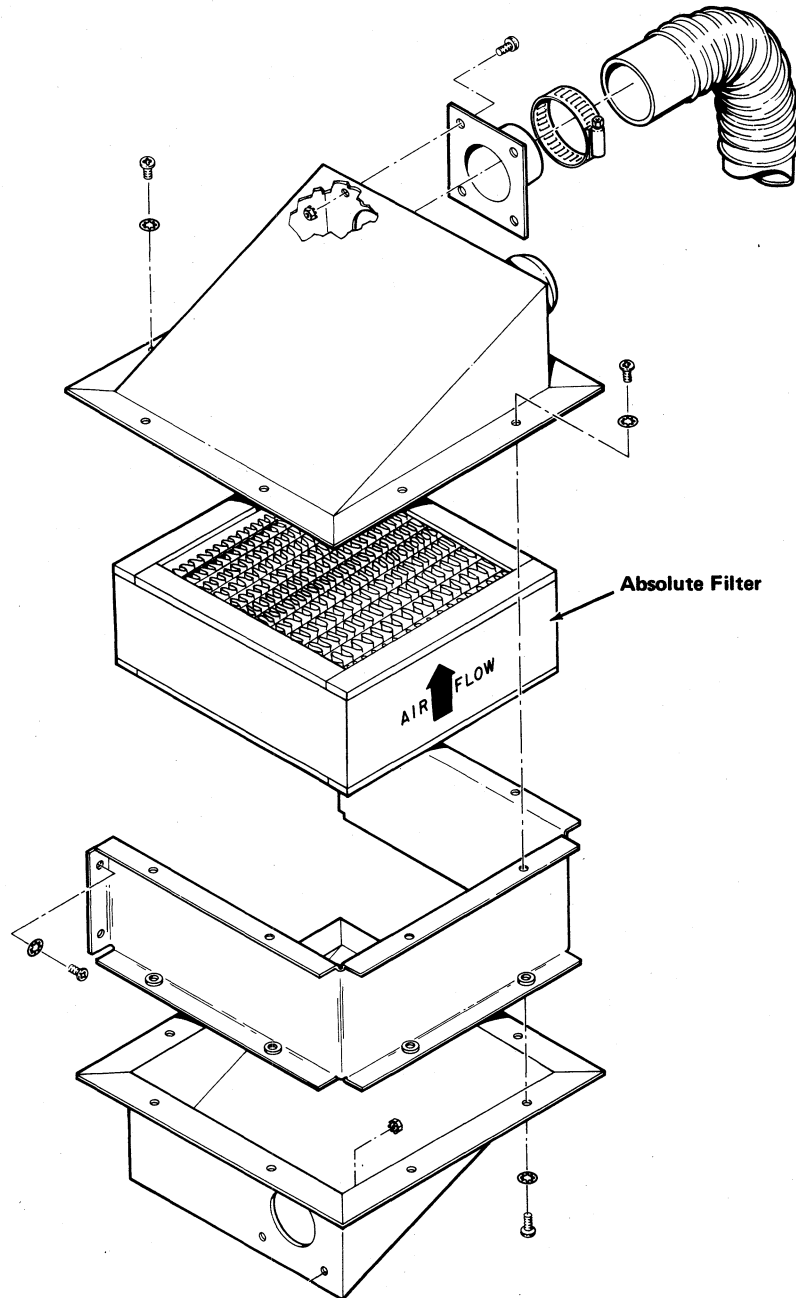

Figure 3 Absolute Filter
1. Replace absolute filter (Figure 3).